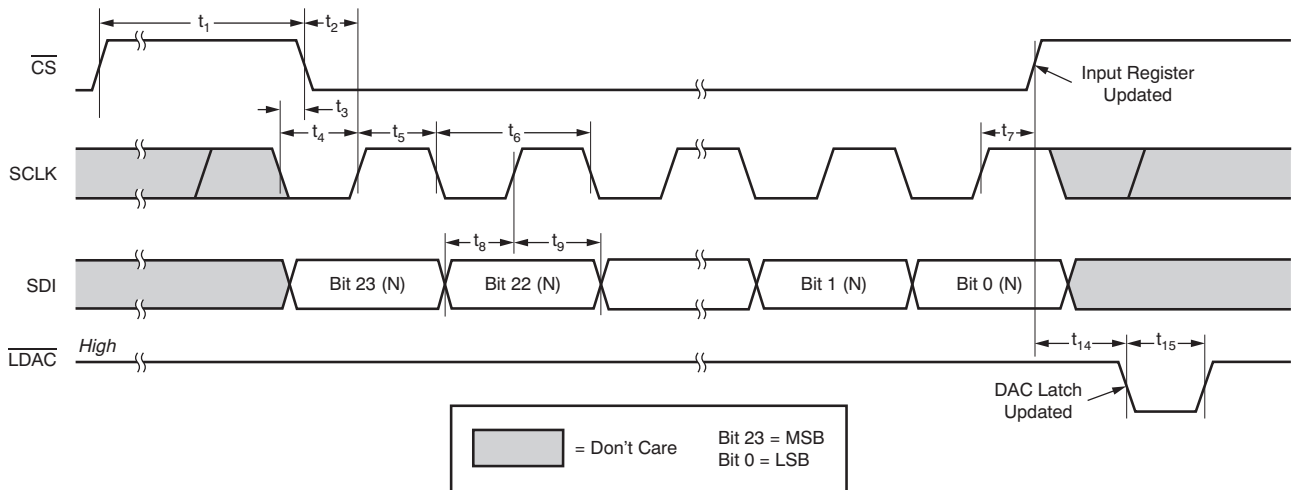

Figure 1. Timing Diagram for Standalone Operation without SDO
TIMING CHARACTERISTICS for Figure 1 (1)(2)(3)